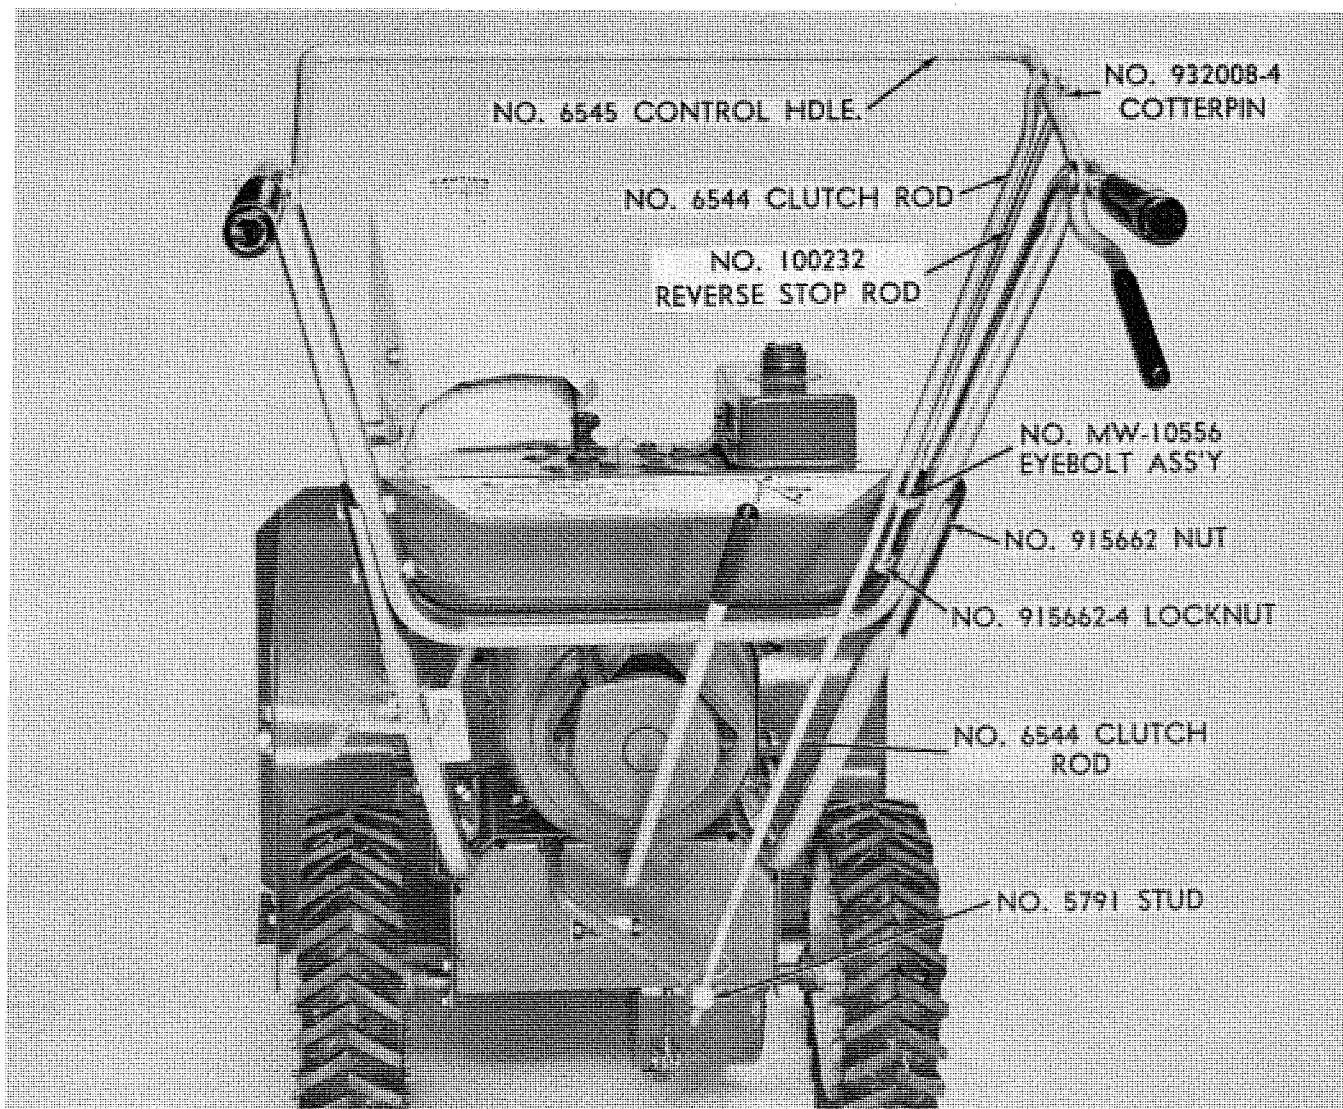

FIGURE 1
1. Assemble upper handles, MW-10284 and panel, 6599 to lower handle with three hex bolts and one $\frac{5}{16}$ eyebolt which goes in the upper hole on the right hand side. The eye of the eyebolt must be on the inside of handles. Secure with four $\frac{5}{16}$ elastic stop nuts. See Figure 1 and Exploded View drawing.
2. Assemble control handle, 6545, to the upper handle using two bushing, one $\frac{5}{16} \times 1\frac{1}{2}$ hex bolt (right side), one $\frac{5}{16} \times 1\frac{3}{4}$ hex bolt (left side), and two $\frac{5}{16}$ elastic stop nuts. See the exploded view drawing and Figure 1.
Place upper end of clutch rod 6544 through hole in control handle. To properly adjust the clutch rod start the engine (see starting procedure) and move shift rod to low, squeeze on the right side of the control handle. The clutch should reach a firm engagement before the clutch rod handle touches the handle grip. If it is too tight or too loose, remove rod from hole and turn in trunnion stud until correct adjustment is achieved. Next insert threaded end of reverse stop rod 100232 through eyebolt, and attach other end over the clutch rod end as shown above (Figure 1). Secure upper end with cotterpin 932008-4. Screw $\frac{5}{16}$ nut on threaded end of rod. This nut is for adjustment in reverse, so that an excess amount of pressure cannot be applied on the reverse belt. With control handle 6545 pulled in reverse position, adjust $\frac{5}{16}$ nut up until it makes contact with eyebolt. (**Note:** When pulling back on clutch bar for reverse, the nut of the reverse stop rod should always make contact with the eyebolt. Adjust nut so that there is just enough rearward movement of the clutch bar for reverse traction and no more.)